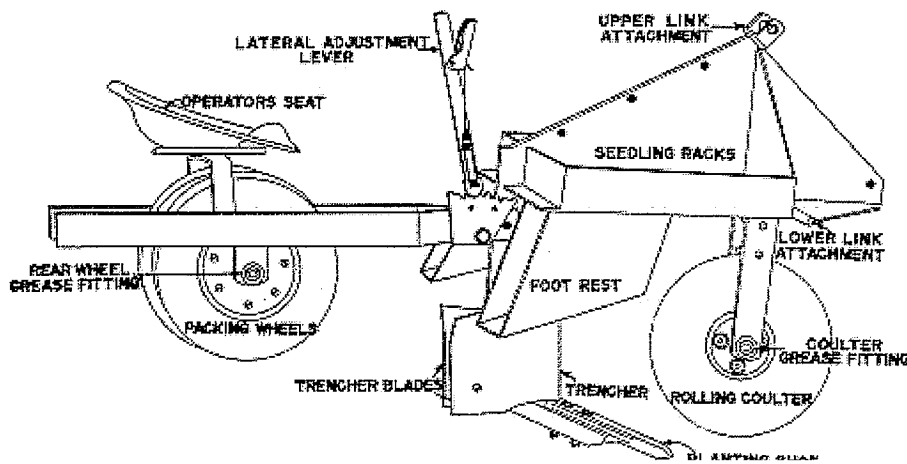

Figure 1
Most planting machines consist of a rolling coultter, a trencher, an operator's seat and packing wheels (Figure 1). These parts are attached to a sturdy frame, usually equipped with a three-point hitch for use on a tractor with a hydraulic lift unit.
- Seedling roots must not be allowed to dry before or during plantings. All trees except the ones needed for a supply on the planter should be kept wrapped in a cool, moist condition in the shade of other trees or beneath a vehicle. If the roots of trees in a bundle are tangled together, each tree should be separated gently so that the small roots are not stripped. Trees on the planter should be covered with wet cloth or kept in water or a mud slurry in seedling racks (Figure 1).
- Planting shoe (Figure 1), for:
Trees are taken from the seedling racks on the tree planter and held with the roots away. Single trees are then transferred to the planting hand and usually held between the forefinger and thumb at about root-collar depth in preparation for planting. Planting is done by placing the tree in the ground between the trencher blades (Figure 1) well forward of the soil that falls in the trench. The tree is held upright or leaned a little backward with the knuckles touching the ground. The operator follows through, holding the tree in position until the forward motion of the machine and soil falling back in the slit holds the tree in place.
Packing wheels do not track, perhaps even run over trees.	<ul style="list-style-type: none"> • Use lateral adjustment lever (Figure 1) to align planter. • Ground hilly or rocky: Adjust the lower linkage (Figure 1) of three-point hitch so machine rides level. • Add stabilizer bar to lower linkage attachments. • Plant on contour.
Trees planted shallow or flat.	<ul style="list-style-type: none"> • Coulters too small for stock. Root prune if root length excessive. • Ground hard. More weight needed on coulters-trencher unit. • Increase the ground entering angle of the trencher by shortening the upper linkage (Figure 1). • Decrease the tractor speed to match planting speed. • Check for worn coulters or planting shoe. • Rocky ground or shallow rock causing coulters and trencher to ride high. • Planter operator removing hand too quickly after placing tree between the trencher blades or not placing tree into furrow quickly enough. • Check hydraulic lift setting.